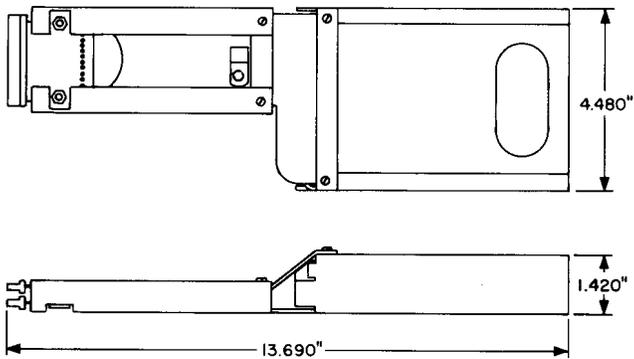

Fig. 5—247A and B Adapter
**2.05 247A and B:** The 247A and B adapters (Fig. 5) consist primarily of two printed wiring boards and a 421A plug mounted on a metal plate with guide rails. The probe end adapter is offset. These connectors are wired to the terminal on the boards which are connected to the printed wiring tabs of the board, serving as a plug-in connector for the adapter. This adapter is used in the T1 Repeated Line-Testing.